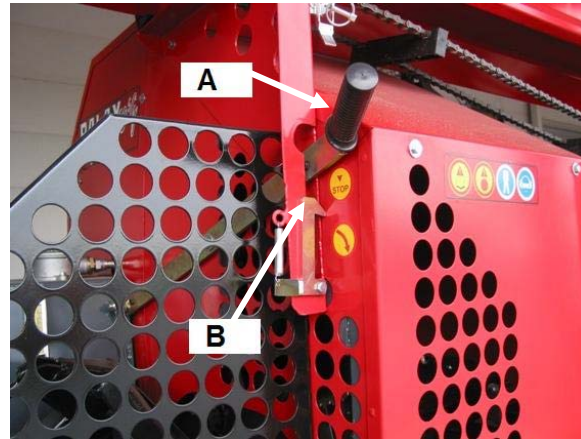

Fig. 7
3.4 Disengagement lever for transmission, Fig. 7